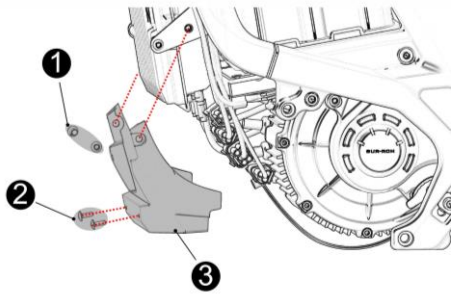

Fig 39
11.10 Dismount guard plate under controller (See Fig 39)